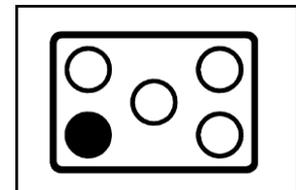

Fig. 4
- **Cook-top control panel and use** - On the control panel, 4 empty and one fully coloured circles are placed next to each gas cock knob of the cook-top (Fig. 4). The fully coloured one indicates the position of the gas burner that is commanded by the knob in question.